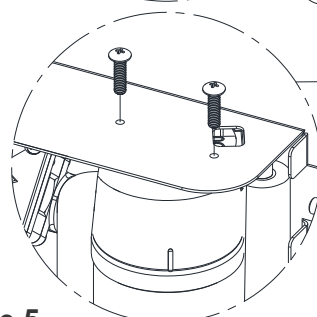

Figure 5.
- 4. Mount Filter Assembly:** Route Supply Tubing [8] through center Fixing Loop [3]. Mount the Filter [9] to the upper back plate as shown. **Figure 5 & Figure 6.**